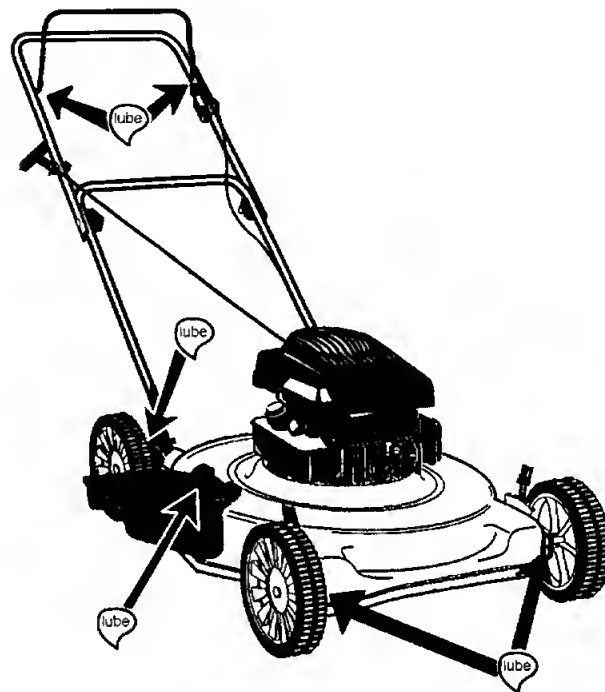

Figure 11: Lubrication Chart
- Lubricate the pivot points on the blade control handle and the brake cable at least once a season with light oil. See figure 11. The blade control must operate freely in both directions.
- Lubricate the torsion spring and pivot point periodically with light oil to prevent any rust or binding. Make sure that the deflector works freely. See figure 11.
- Also, if the wheels are removed for any reason, lubricate the surface of the axle bolt and the inner surface of the wheel. See figure 11.